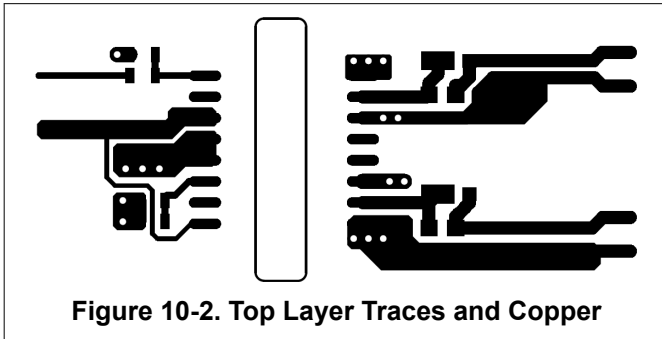
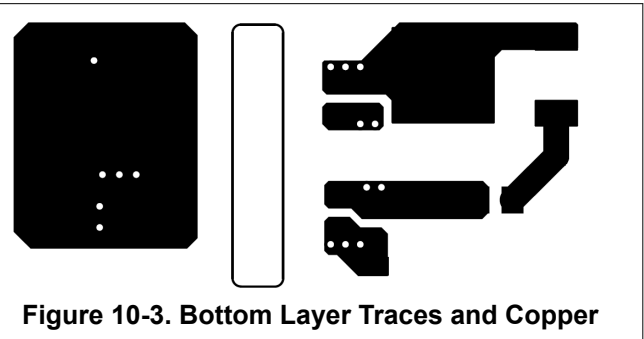

Figure 10-2. Top Layer Traces and Copper
Figure 10-3. Bottom Layer Traces and Copper
- Increasing the PCB copper connecting to VDDA, VDDB, VSSA and VSSB pins is recommended (See Figure 10-2 and Figure 10-3). However, high voltage PCB considerations mentioned above must be maintained.
Figure 10-2 and Figure 10-3 shows top and bottom layer traces and copper.